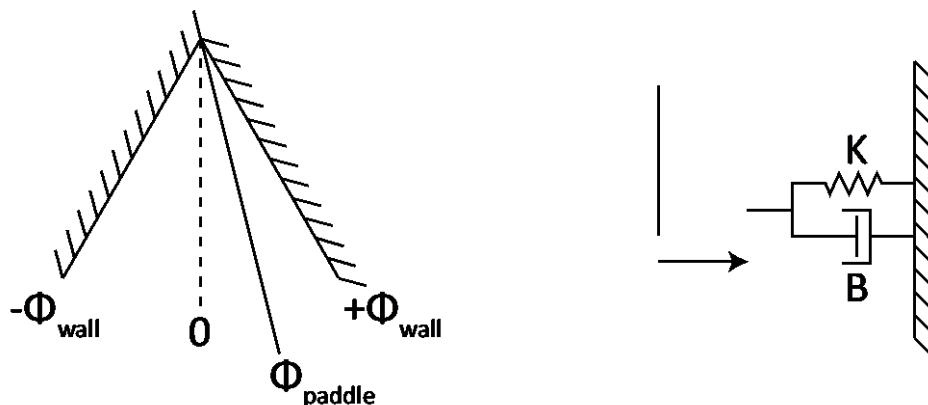

Figure 1: virtual wall angular range (left), and physical modelling (right)
- Design and implement two virtual walls, applying a viscoelastic (a spring with a damper) behavior once the paddle reaches $\pm\Phi_{\text{wall}} = 15^\circ$ (see Figure 1). Keep the active compensation of the friction and the gravity.